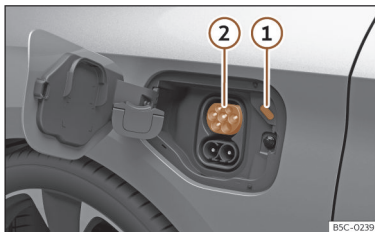

Fig. 59 Behind the battery charging cover on the front left-hand side: Charging socket
>>> Fig. 59
The LED (charging process indicator) of the charging socket ① flashes or flashes white >>> Fig. 59, >>> page 82.